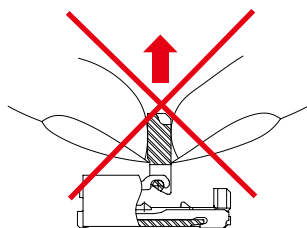

Fig. 2
- ③ The actuator will rotate 125°C. Do not apply force to rotate further.
- ④ When opening or closing the actuator, do so at the center section.
- ⑤ Do not grasp or lift the actuator (Fig. 2) nor insert the nail from the back of it (Fig. 3).